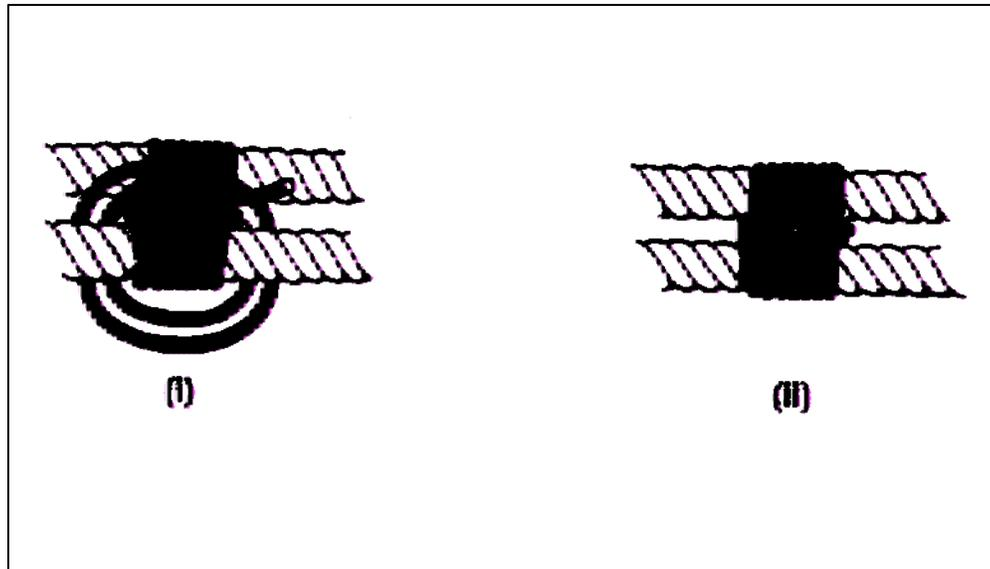

Figure 5.11-4 - Passing a Flat Seizing
- (1) Take the round turns very loosely around both parts of the rope and then pass the end back, along and between the two parts of the rope, under the turns and through the eye or half hitch of the seizing as in Fig 5.11-4.
- (2) Heave each turn taut and take a cross turn around the seizing between the two parts of the rope.
- (3) Haul the seizing taut and secure its end with a clove hitch, one part of the clove hitch being on each side of the round turn.